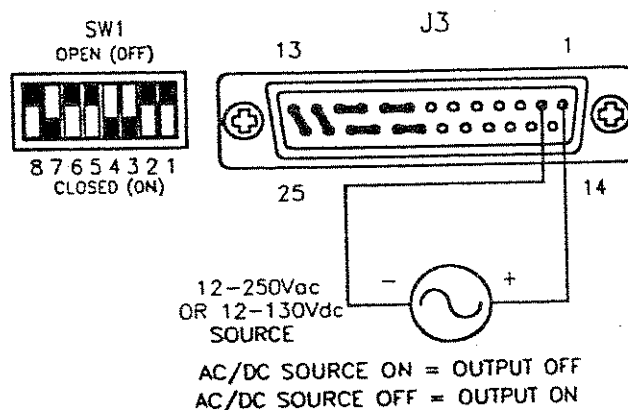

Figure 4.5-3 Using Shutdown with an AC or DC Input (Positive Logic)
1. Turn off the power supply and disconnect the AC power source. Allow five (5) minutes to elapse to dissipate stored energy before making connections or resetting switches.
2. Connect the AC or DC source to pin 1 (positive) and pin 2 (return) on the J3 connector on the rear panel. See Figures 4.5-3 and 4.5-4.